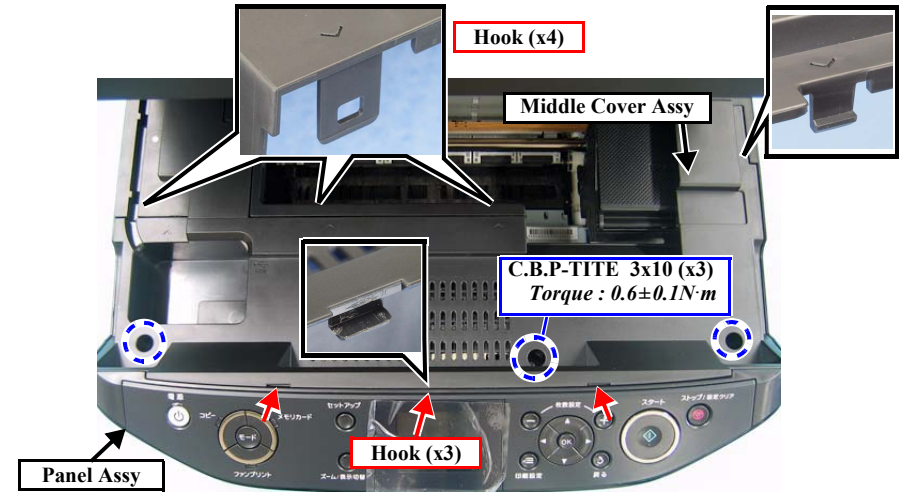

Figure 4-4. Removing the Middle Cover Assy
1. Open the Scanner Unit, and remove the screws (x3) securing the Middle Cover Assy. (Fig. 4-4)